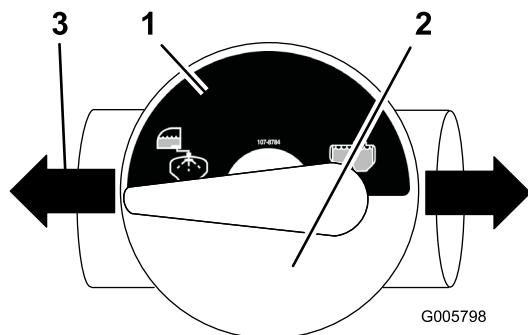

Figure 21
2. Install the decal number 107-8784 onto the valve face in the correct orientation (Figure 21). Make sure the decal aligns with the flow of the valve.